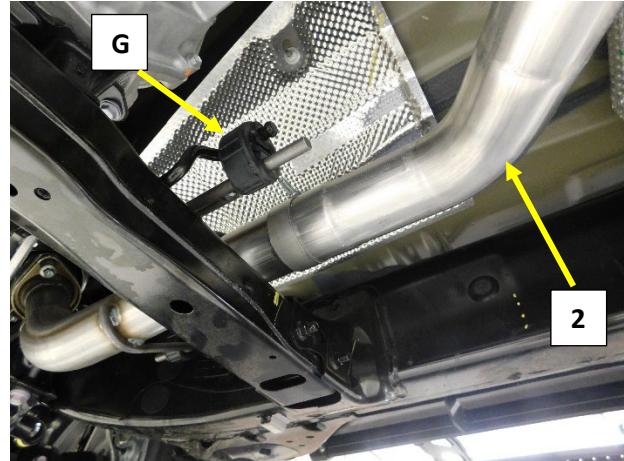

Figure.4
3. Install a 3" band clamp (13) into the inlet (expanded section) of the Muffer inlet pipe (2). Position the clamp with the bolt at the top of the expanded section and the nut facing the transmission. **Fig.4/5**
4. Install the muffer inlet pipe (2) on to the down pipe (1), align the hanger rods with the frame hangers and install the rubber isolators. **Fig.4/5/6**